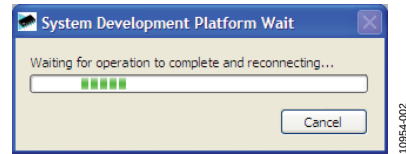

Figure 2. Connection Message
3. Click **Start > All Programs > Analog Devices > AD56x(R)**. Each of the AD5686R, AD5686, AD5684R, and AD5684 has its own version of software. Click the appropriate one to run the software. As the software connects to the evaluation board, the message in Figure 2 displays.